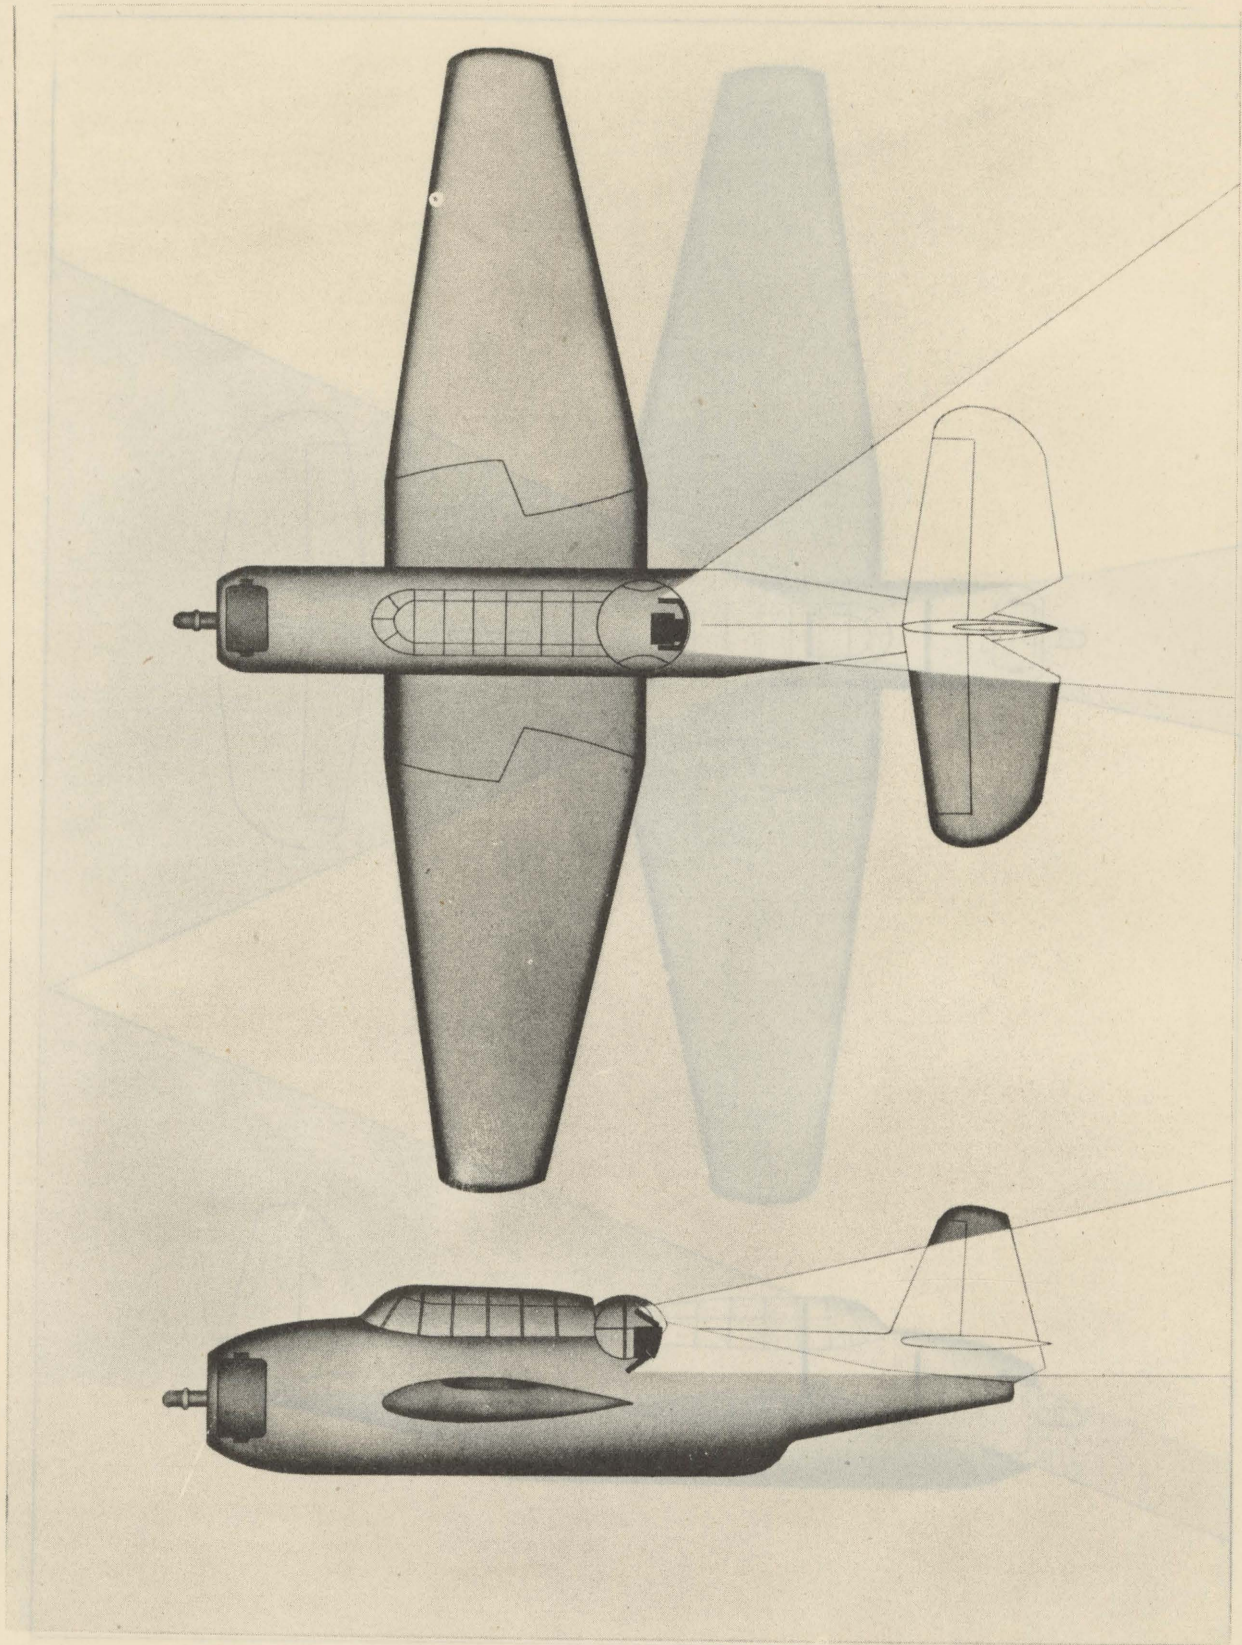

Figure 4 — Protection from Gunfire, Turret Position
b. PROTECTION FROM GUNFIRE.—Armor is provided to minimize the possibility of enemy gunfire reaching the pilot (Figure 4A) and turret gunner (Figure 4).
(1) The hydraulic system operates in several different circuits, each of which is supplied hydraulic pressure from a central distributing unit. A separate control is provided for each circuit. The circuits are as follows: